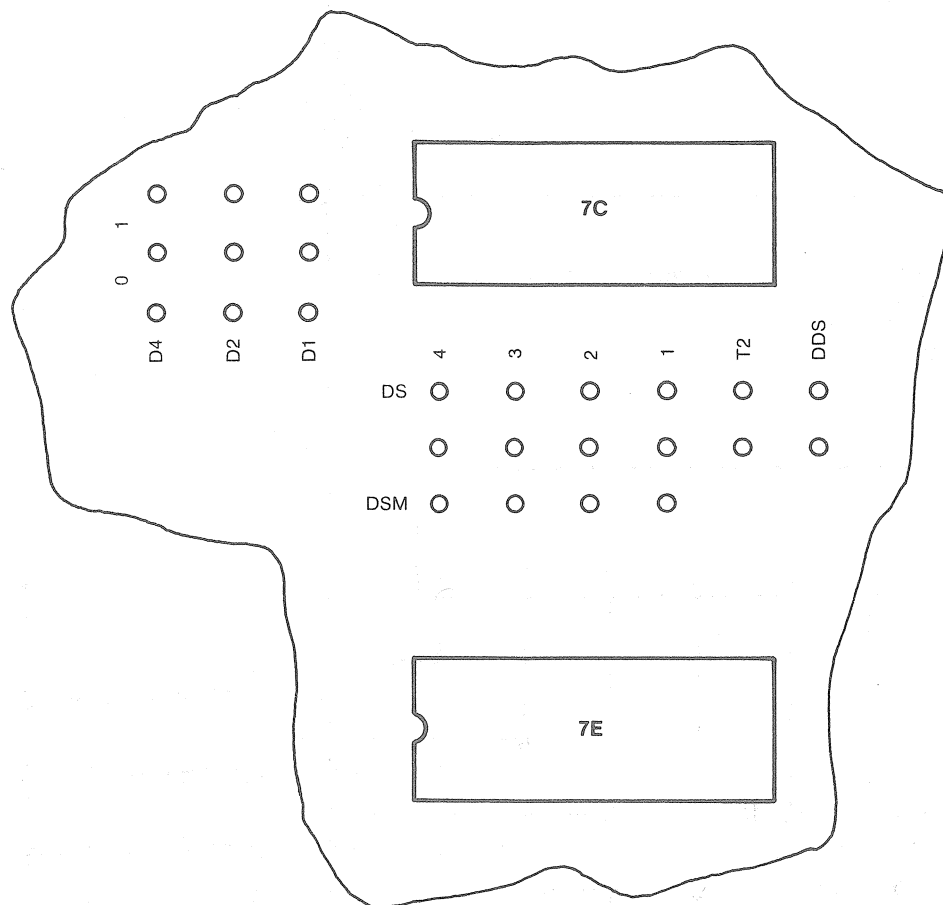

FIGURE 3-9. SECTION OF COMPONENT SIDE OF PCB FOR DRIVE SELECTION OPTION
3. Install a jumper at trace DDS (refer to Figure 3-9).
4. Install the 74L85 four-bit comparator in position 7C (Figure 3-9).
5. Install terminal pins in the four DSM locations (Figure 3-9).
6. Install terminal pins in the nine PCB locations for the matrix D4, D2, D1, 0, 1 (Figure 3-9).